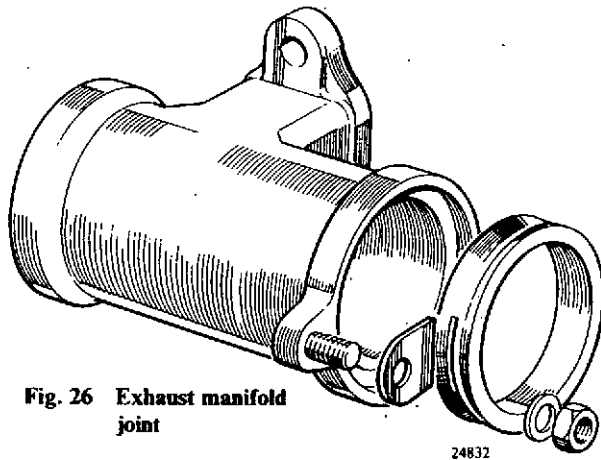

Fig. 26 Exhaust manifold joint
24. **Manifolds and coolant rail.** Fit the exhaust manifold, with a light smear of anti-seize compound on the screw threads. Each intersection sealing ring is assembled with its lockplate slot offset towards the lockplate stud boss (fig. 26).